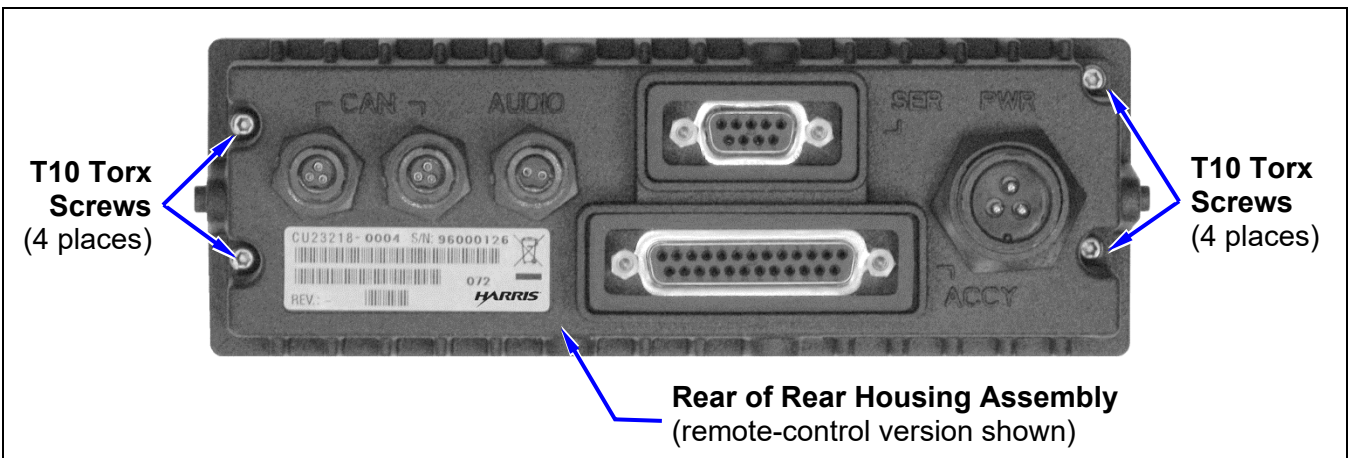

Figure 5-1: Separating/Mating Front Cover Assembly and Rear Housing Assembly (Torx Screws at Rear)
2. Using a T10 Torx screwdriver, loosen the four (4) T10 stainless-steel screws near each corner of the Rear Housing Assembly. These are captive screws, so complete removal is not required. See Figure 5-1.